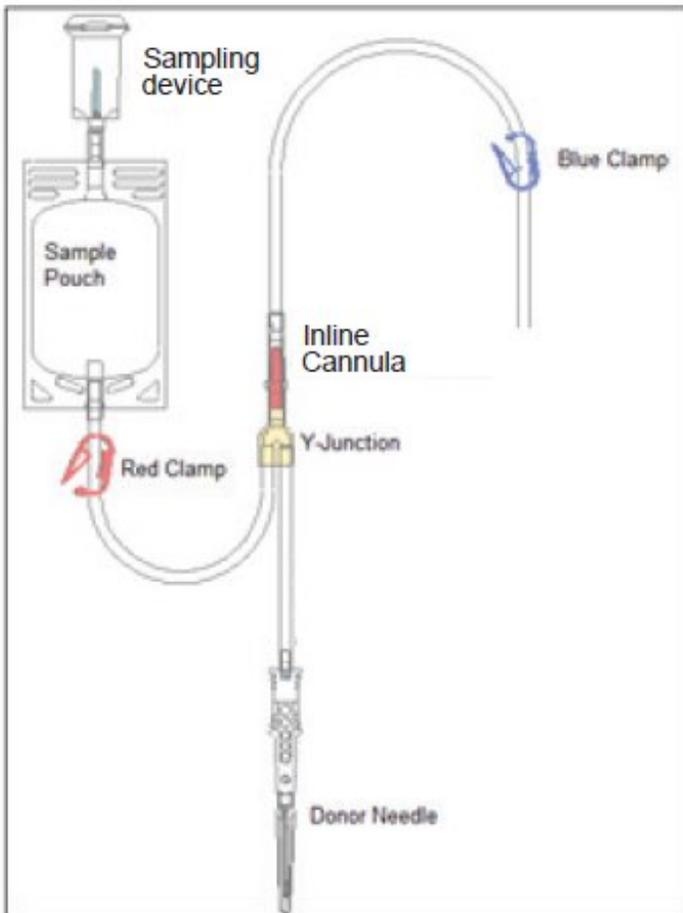

Figure 1
- In-line cannula is broken and/or anticoagulant is present in the sample pouch or in the tubing from the in-line cannula to the sample pouch and donor needle (see Figure 1).
3. Unwind the tubing and ensure it is torsion-free to prevent the needle from turning while drawing blood. See Figure 1.
4. Close only the blue clamp on the donor tubing. See Figure 1.
- Do not close the red clamp to the sample pouch; it is a non-reopenable clamp. See Figure 1.
8. As the sample pouch is filling, break the in-line cannula below the Y-junction. See Figure 1.
11. Open the blue clamp on donor tubing to begin collection. See Figure 1.